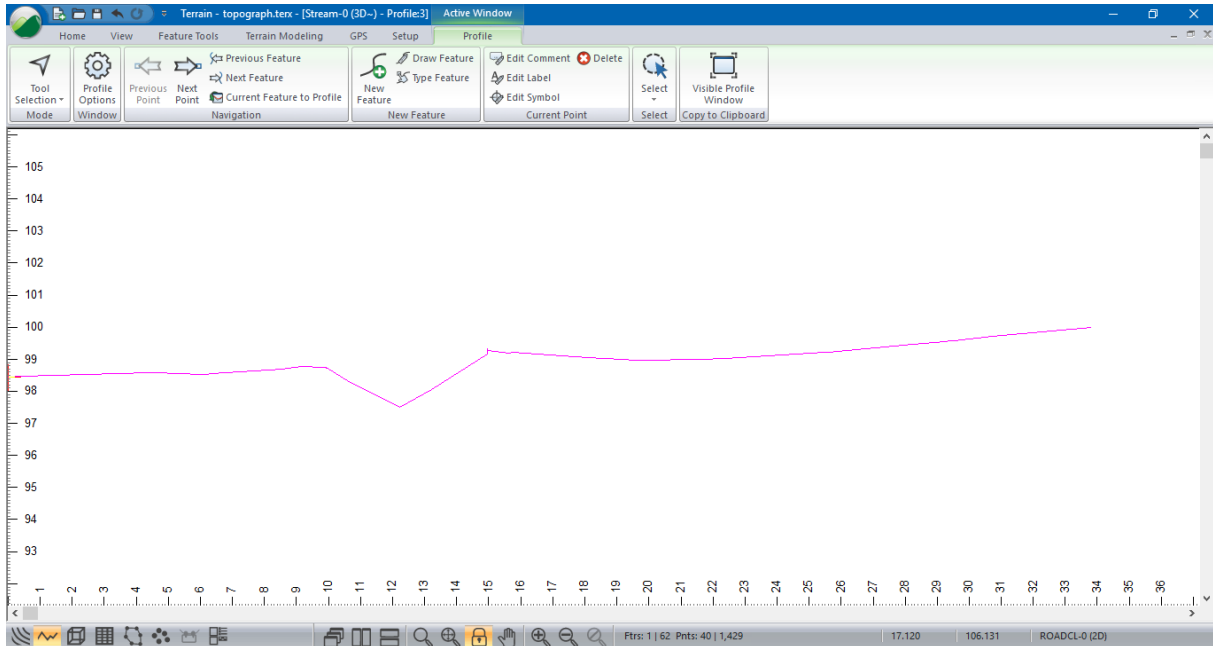

Figure 8-13: ROADCL Profile
13. With the feature selected, select menu *View | New Window | Profile*. Refer to Figure 8-13.